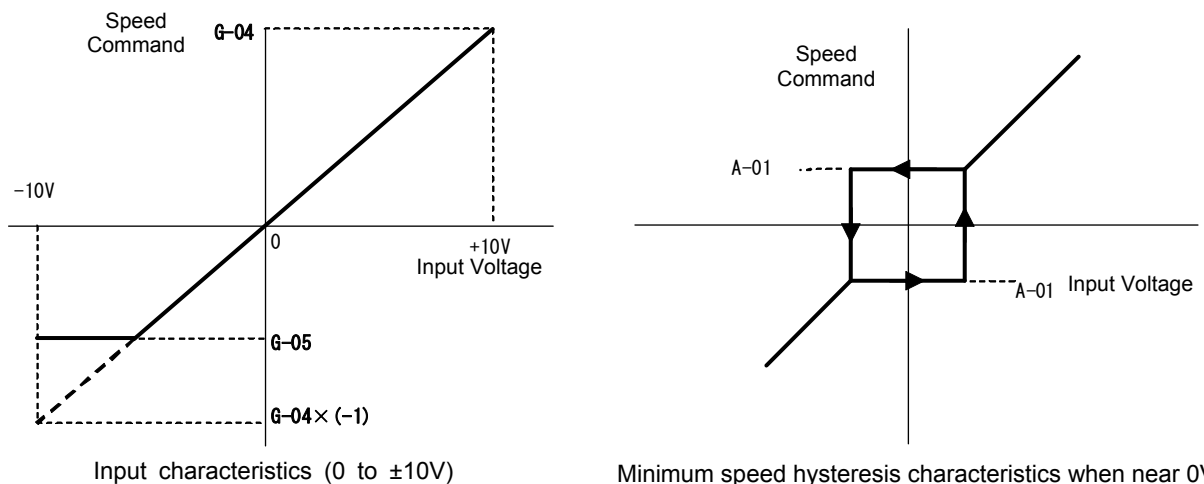

Figure 5.2 Speed command characteristics with voltage input of 0 to ±10V
The rotational direction can be reversed by setting the command input voltage to a negative value. The speed command value is set as the Analog Input (2) upper limit speed (G-04) when the input is +10V. When the input is -10V, it is set as the negative value of the Analog Input (2) upper limit speed (G-04). However, it is possible to set a lower limit by setting the Analog Input (2) lower limit speed (G-05). (Figure 5.2, left) If the minimum speed (A-01) is other than "0", the speed command absolute value is controlled to prevent falling below the minimum speed. In this case, when the command input voltage is around the 0V range, its behavior shows hysteresis characteristics (It will run forward if started in the forward direction and will run in the minimum reverse speed if started in the reverse direction) as shown in the right side of Figure 5.2.